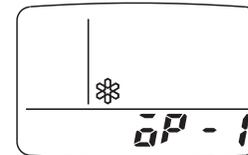

Fig. 10
- d) ✽ appears with “oP-1” blinking in the remote controller clock display area. (Fig. 10)